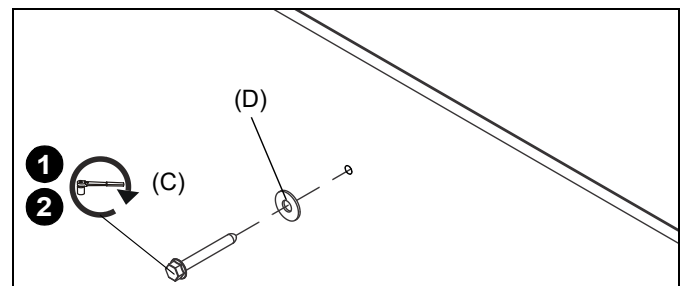

Figure 26
1. Use one 5/16" x 2-1/2" hex flange head lag bolt (C) and one 5/16" washer (D) through product and into pilot hole. (See Figure 26)